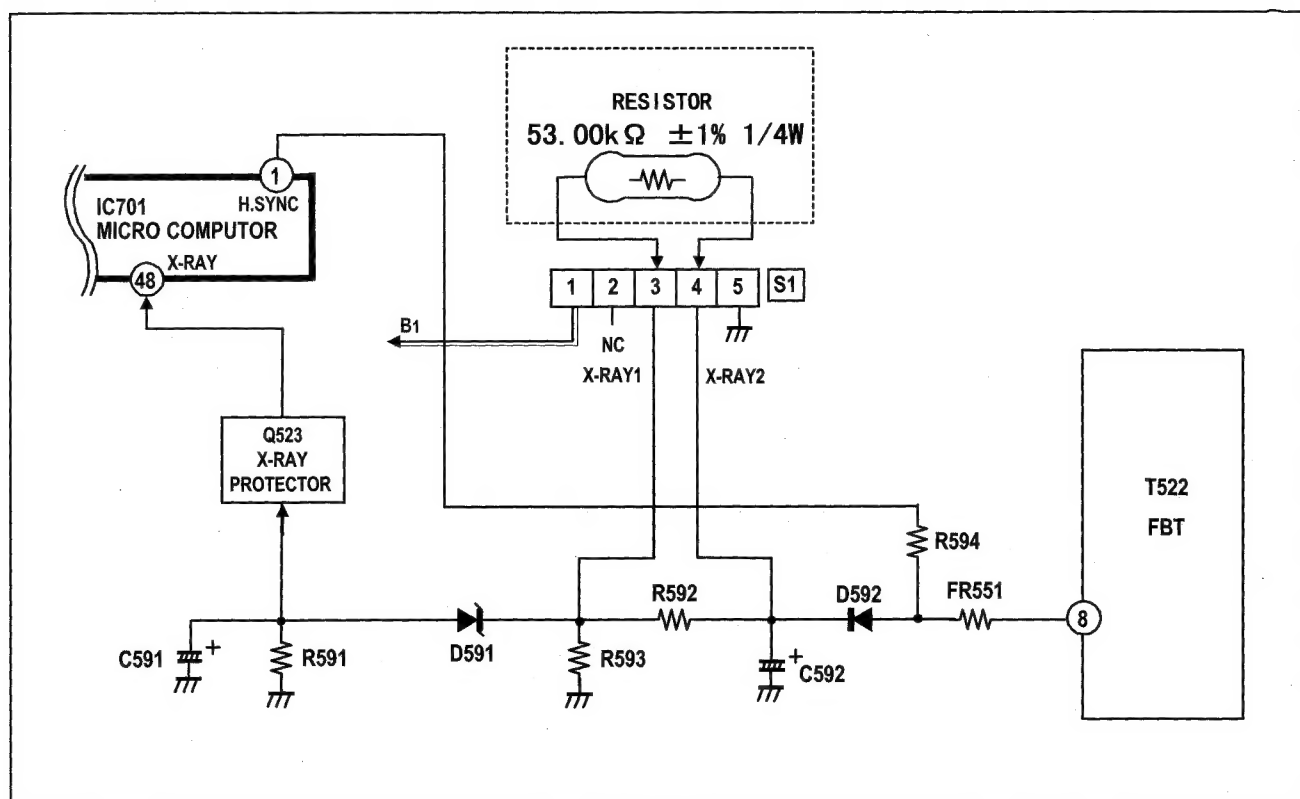

Fig. 1
After repairing the high voltage hold down circuit shown in Fig. 1.
- (1) Turn the POWER SW ON.
- (2) As shown in Fig.1, set the resistor (between [S1] connector [3] & [4] ).
- (3) Make sure that the screen picture disappears.
- (4) Temporarily unplug the power cord.
- (5) Remove the resistor (between [S1] connector [3] & [4] ).
- (6) Again plug the power cord, make sure that the normal picture is displayed on the screen.